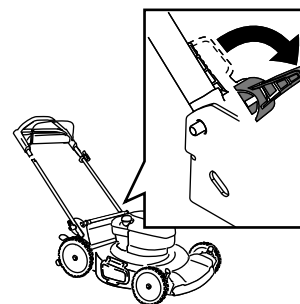

Figure 22
3. Disengage the handle locks (Figure 22).